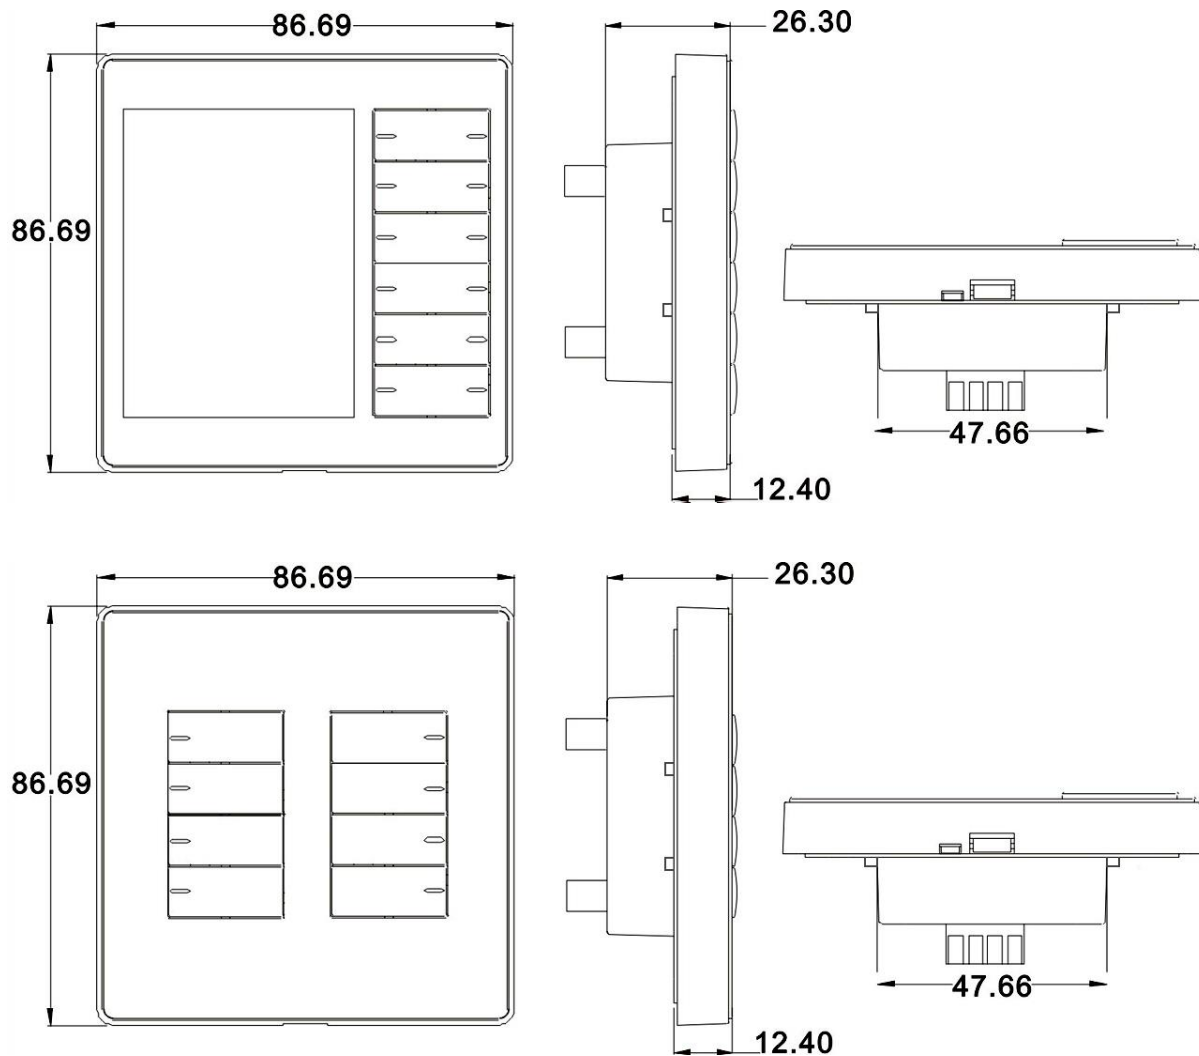

Figure 1.1.8: Smart Home Keypads
- Smart home keypads, shown in Figure 1.1.8, are programmable keypads that consist of 4 to 8 buttons or an LCD with 12 buttons where each button can be used for a single or multiple actions (scenes).